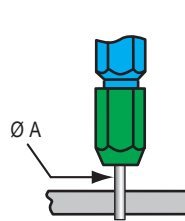

Fig. 1
- “GO” - Insert the end (green) of the gauge as shown (Fig. 1).